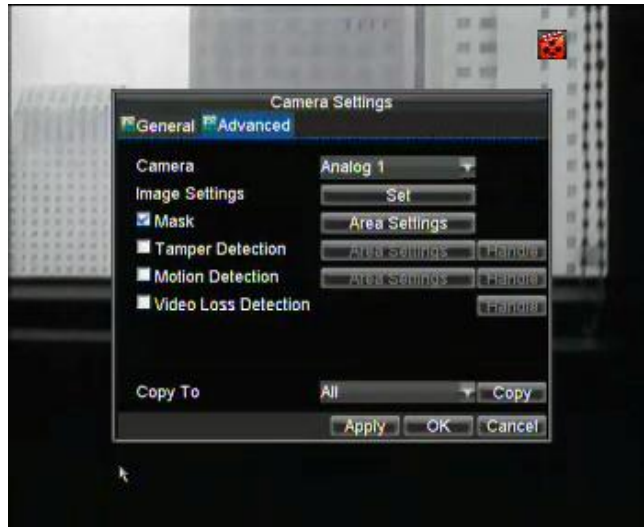

Figure 2. Advanced Camera Settings Menu
3. Select the **Advanced** tab to enter the Advanced Camera Settings menu, shown in Figure 2.